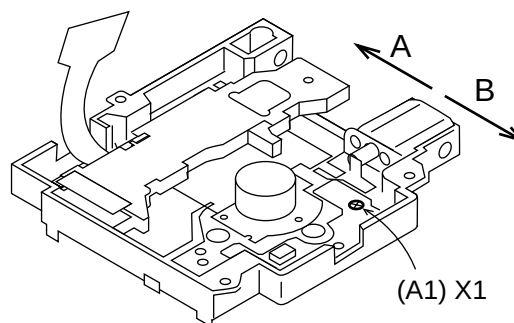

Figure 25-1
2. When the lead-in switch is located FF85 or less, tighten the screw while pressing the PWB in the direction of the arrow A. When FFD2 or more, to direction B. Measure the lead-in switch position again. After position adjustment is completed, fix the PWB with the screw (A1) x 1 pc. (shown in Figure 25-1)